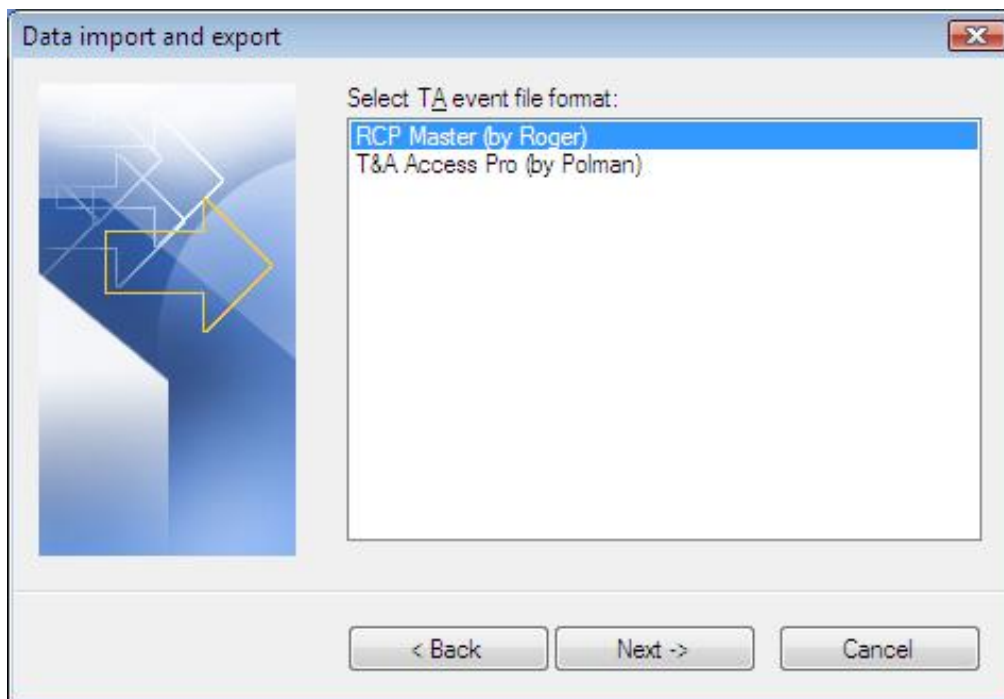

Figure 8. *Data import and export wizard — step 2*
- ◆ Step 2. Select data file format (when importing data from PR Master — Figure 8).